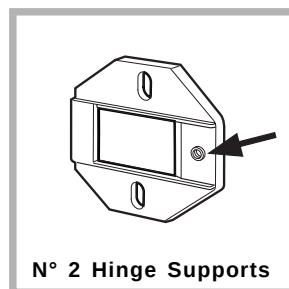

Fig. 1
- Fit the hinge supports to the appliance front panel, positioning the hole marked with an arrow in fig. 1 so that it is on the inner side of the front panel. Fit a spacer (fig. 4/B) between the surfaces using type C screws.